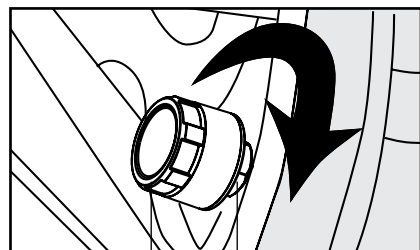

Fig 1 Sensor Brass Nut
1. Screw (brass coloured) nut onto the valve stem (optional), Fig 1.